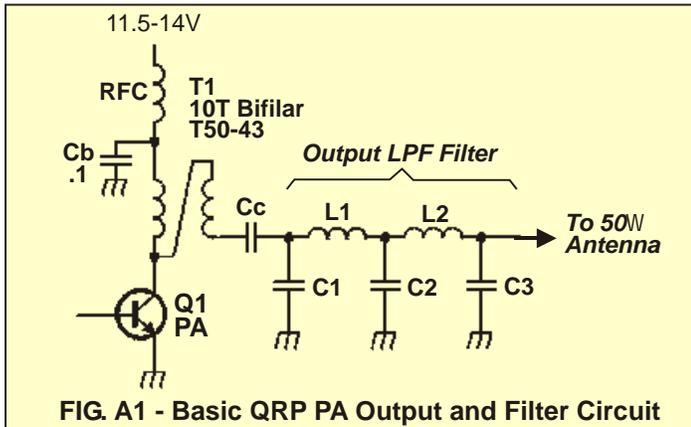

FIG. A1 - Basic QRP PA Output and Filter Circuit
1. PA output circuit per **Fig. A1**; Pout = 5W; RL'=13W